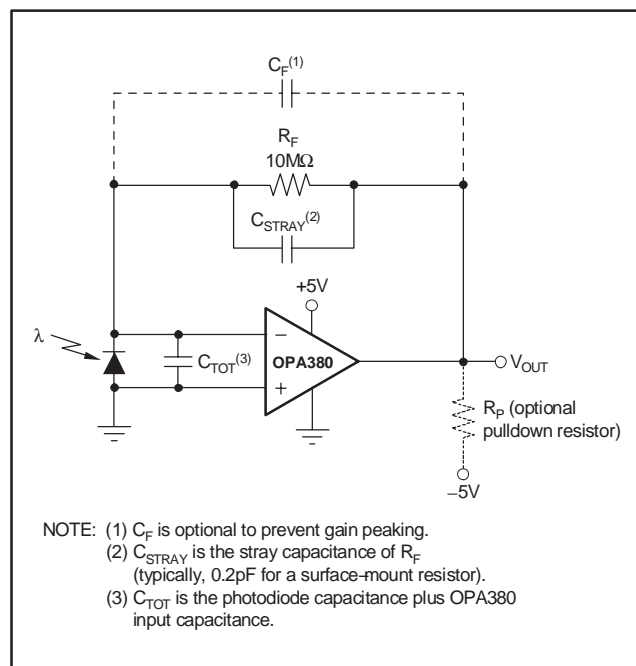

Figure 5. Transimpedance Amplifier
(1) 300-hour life test at  $150^\circ\text{C}$  demonstrated randomly distributed variation approximately equal to measurement repeatability of  $1\mu\text{V}$ .
(2) Tested with output connected only to  $R_P$ , a pulldown resistor connected between  $V_{OUT}$  and  $-5V$ , as shown in Figure 5. See also applications section, *Achieving Output Swing to Ground*.
The key elements to a transimpedance design are shown in Figure 5: